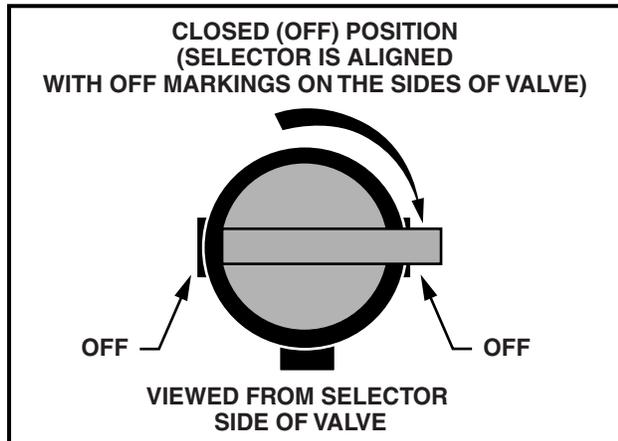

Figure 15 Fuel Shut-off Valve – Closed Position
- Gasoline vehicles only: Turn the fuel shut-off valve to the closed (OFF) position (Figure 15, Page 26).
- Turn the fuel shut-off valve to the closed (OFF) position (Figure 15).
- 2.1. Place the Forward/Reverse handle in the NEUTRAL position and the neutral lockout cam in the MAINTENANCE position. Turn the fuel shut-off valve to the closed (OFF) position (**Figure 15**) and run the engine until fuel remaining in the carburetor and fuel lines is depleted and the engine stalls. Return the neutral lockout cam to the OPERATE position.
- Turn the fuel shut-off valve to the closed (OFF) position (**Figure 15, Page 26**).